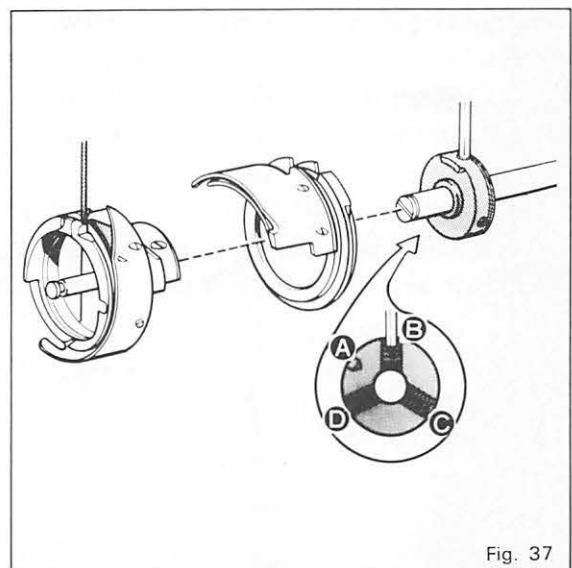

Fig. 37
In case of adjustment, loosen at first screws ③ and ④, and lastly screw ⑤, putting the spanner into ⑤, and turning the pulley slowly toward you, get the correct timing of needle and hook point. Then, fasten three screws securely. (Fig. 37)